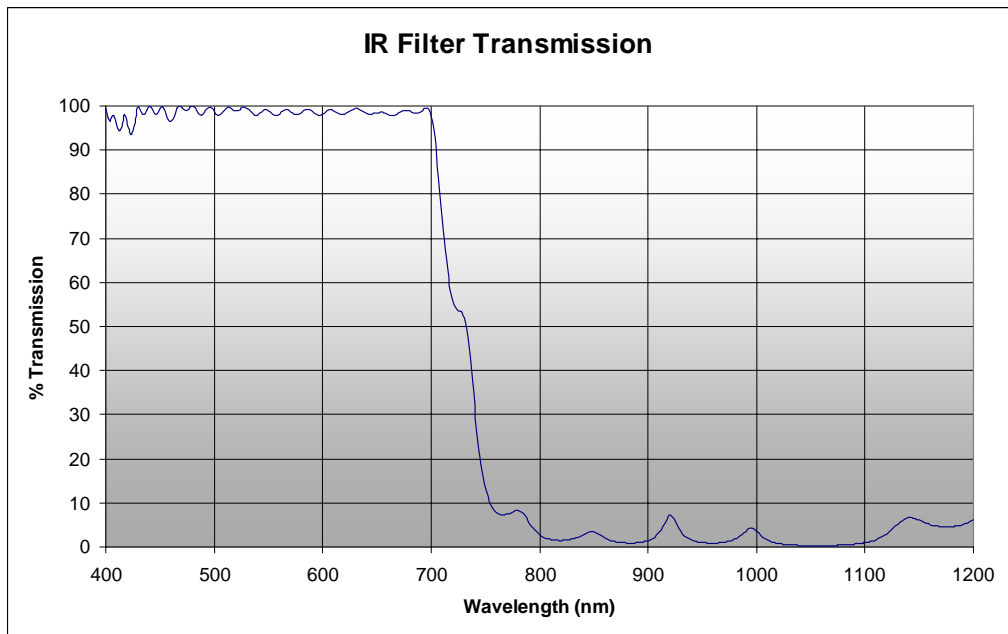

Figure 3
If it is desired to eliminate the infra-red (IR) output of the lamp, there are several options including the use of cold mirrors (IR passes through) or hot mirrors (IR is blocked). In the case of hot mirrors or other filters that may direct energy back into the lamp, precautions need to be taken for proper cooling. Thermal damage can be done to internal components if this energy is “added” back into the lamp. Consult Luxtel engineering for assistance to ensure proper operation. The transmission of a typical IR filter is shown in Figure 3.